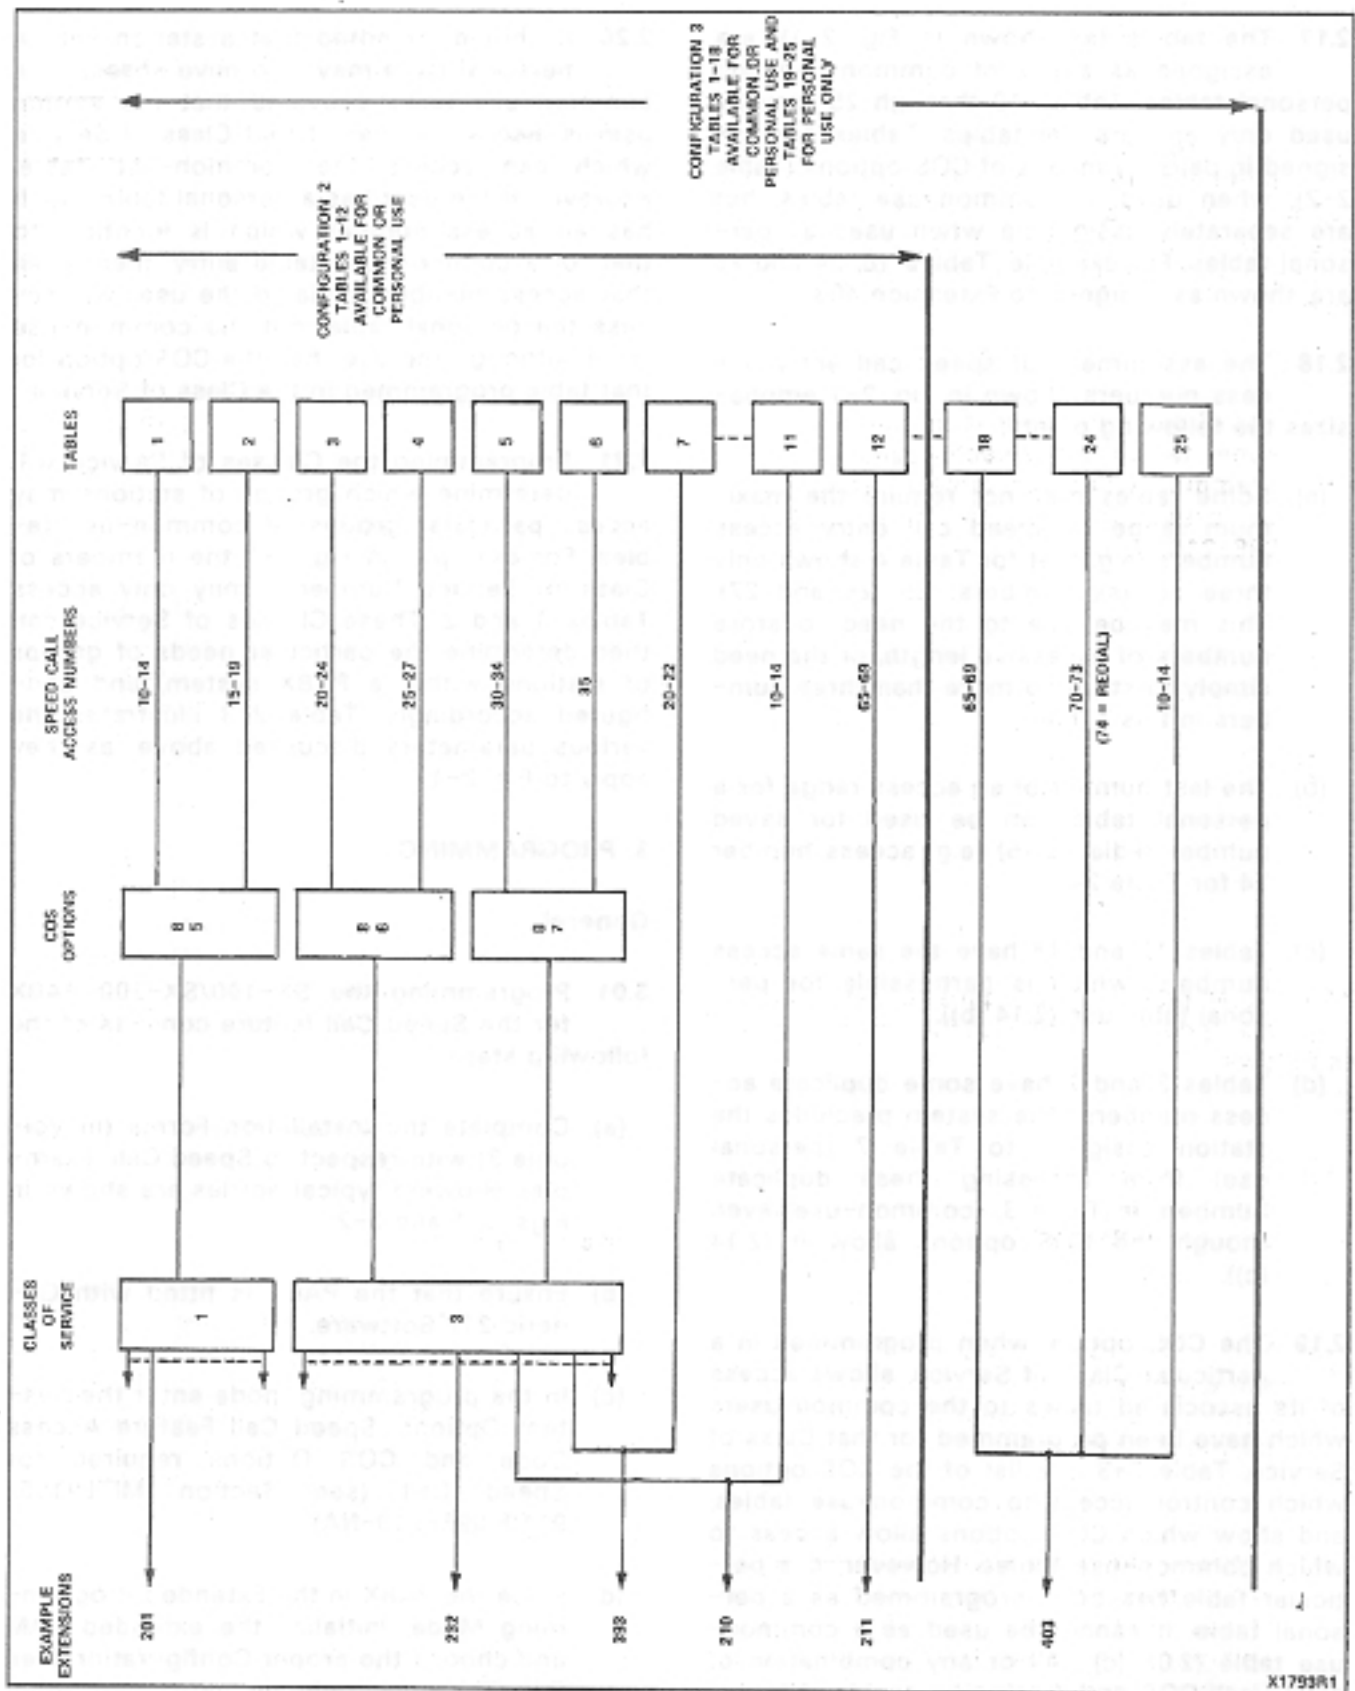

Fig. 2-1 Speed Call System Allocations
2.12 It should be noted that any of the first 18 tables may be programmed as a personal table if required, in which case it will not be available as a common-use table. Common-use tables are made available to groups of stations by setting Class of Service options (see Fig. 2-1).
- (b) Speed call entry access numbers are not predefined on a one-to-one basis with a table, as is the case for common-use tables (Table 2-1). See the typical example in Fig. 2-1 which shows that Access Number range 10-14 is fixed for Table 1, but the same range is programmed for Table 11 when it is a personal table.
2.16 In order to illustrate the description of the Speed Call feature, an example is given in Fig. 2-1. This example should not be considered typical, in that certain aspects have been emphasized to illustrate all possible combinations which may occur under different circumstances. These aspects are discussed with respect to the following areas:
2.17 The tables (as shown in Fig. 2-1), are assigned as a mix of common-use and personal tables. Tables 19 through 25 may be used only as personal tables. Tables are assigned in pairs by means of COS options (Table 2-2), when used as common-use tables, but are separately assignable when used as personal tables. For example, Tables 18, 24 and 25 are shown as assigned to Extension 403.
2.18 The assignment of speed call entry access numbers shown in Fig. 2-1 emphasizes the following points:
2.21 Programming the Classes of Service will determine which groups of stations may access particular groups of common-use tables. For example, in Fig. 2-1 the members of Class of Service Number 1 may only access Tables 1 and 2. These Classes of Service can then determine the particular needs of groups of stations within a PABX system, and configured accordingly. Table 2-3 illustrates the various parameters discussed above, as they apply to Fig. 2-1.
(See Fig. 2-1 for which the following characteristics apply.)
3.03 Form SC-1 is used to list a speed call table as a common-use table or as a personal table. It includes data concerning the equipment number and COS assignments, and whether the saved number redial facility is enabled for any of the tables. This information is tabulated and then used in conjunction with Form SC-2 to perform table programming. The information is also used to provide the attendant, and a personal table user with basic data (required to define the speed call numbers). An example of Form SC-1, based on Fig. 2-1, is shown in Fig. 3-1.
3.04 The personal table information compiled on Form SC-1 is entered on Form SC-2. This form is used to program the required data as detailed in later paragraphs. Upon completion of programming the speed call entry access number, and whether the saved number redial is enabled, is entered on the Speed Call Number Record Card (3.13). Example entries, again based on Fig. 2-1, are shown in Fig. 3-2.
3.08 The COS options govern the station access to the numbers in the common-use tables. Each COS option allows access to a pair of tables. See Fig. 2-1 for an example of this application. If any of the Tables 1 through 18 have been assigned as a personal table, then only the assignee may have access to it, irrespective of a COS option set-up.
normal operating state. When so inscribed the SC-3 forms are given to the user for the numbers to be defined (Part 4) and distributed as indicated in 3.13. An example of Form SC-3 completed for Table 6 (Fig. 2-1) is shown in Fig. 3-4.